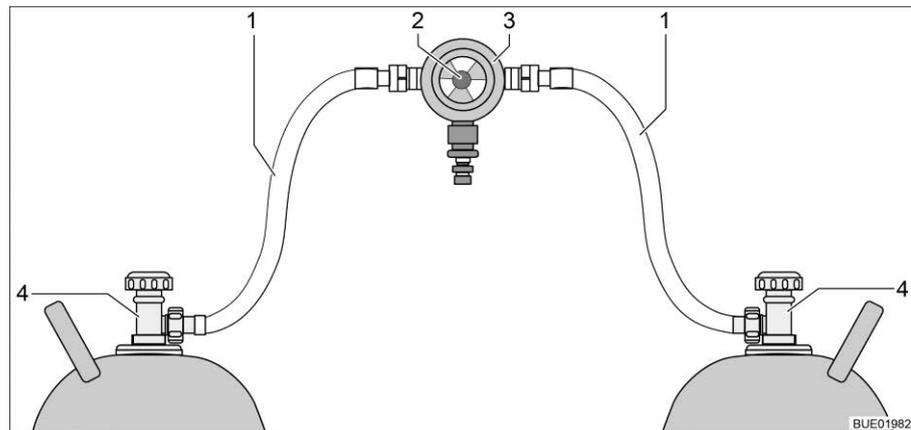
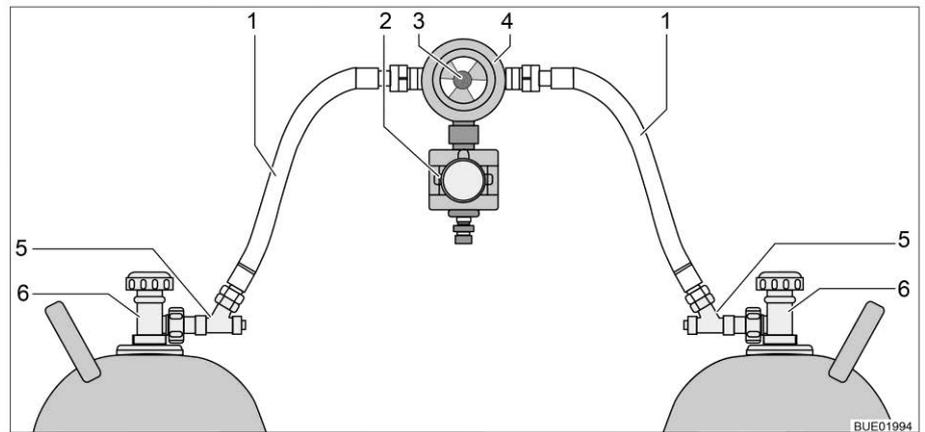

Fig. 90 Gas bottle switching facility
Fig. 91 Gas bottle switching facility with CPU
The gas bottle switching facility consists of a combined gas pressure regulator with reversing valve and indicator (Fig. 90,3). The gas bottle switching facility is installed between the two gas tubes (Fig. 90,1).
The gas bottle switching facility consists of a combined gas pressure regulator with reversing valve and indicator (Fig. 91,4), and an electrovalve (Fig. 91,2). The electrovalve blocks the gas supply to the vehicle in the event of a full braking, an accident, or an unusually great inclined position. The gas bottle switching facility is installed between the two gas tubes (Fig. 91,1) with hose break guards (Fig. 91,5).
Use the knob (Fig. 90,2 or Fig. 91,3) on the gas bottle switching facility to select which of the gas bottles is to be used as a primary bottle and which is to be used as a reserve bottle.
Only the electrical functions can be switched at the operating unit (Fig. 92). The regulator taps on the gas bottles (Fig. 90,4 or Fig. 91,6) must be opened and closed manually.
- Open the regulator taps of the gas bottles (Fig. 90,4 or Fig. 91,6).
- Press the hose break guards (Fig. 91,5) successively for 10 seconds.
- Use the knob (Fig. 90,2 or Fig. 91,3) on the switching facility to select the gas bottle which is to be the primary source of gas (primary bottle). Always turn the knob as far as it will go.
- Close the regulator taps of the gas bottles (Fig. 90,4 or Fig. 91,6).